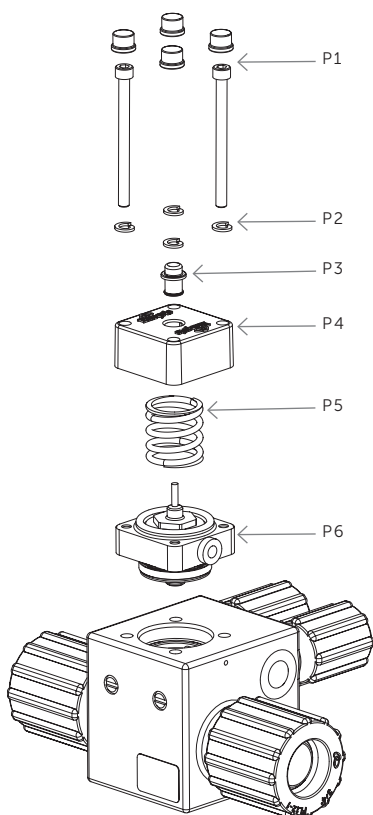

Figure 1.
2. Remove the top cap (P4), spring (P5) and the poppet assembly (P6) from the manifold (see Figure 1).